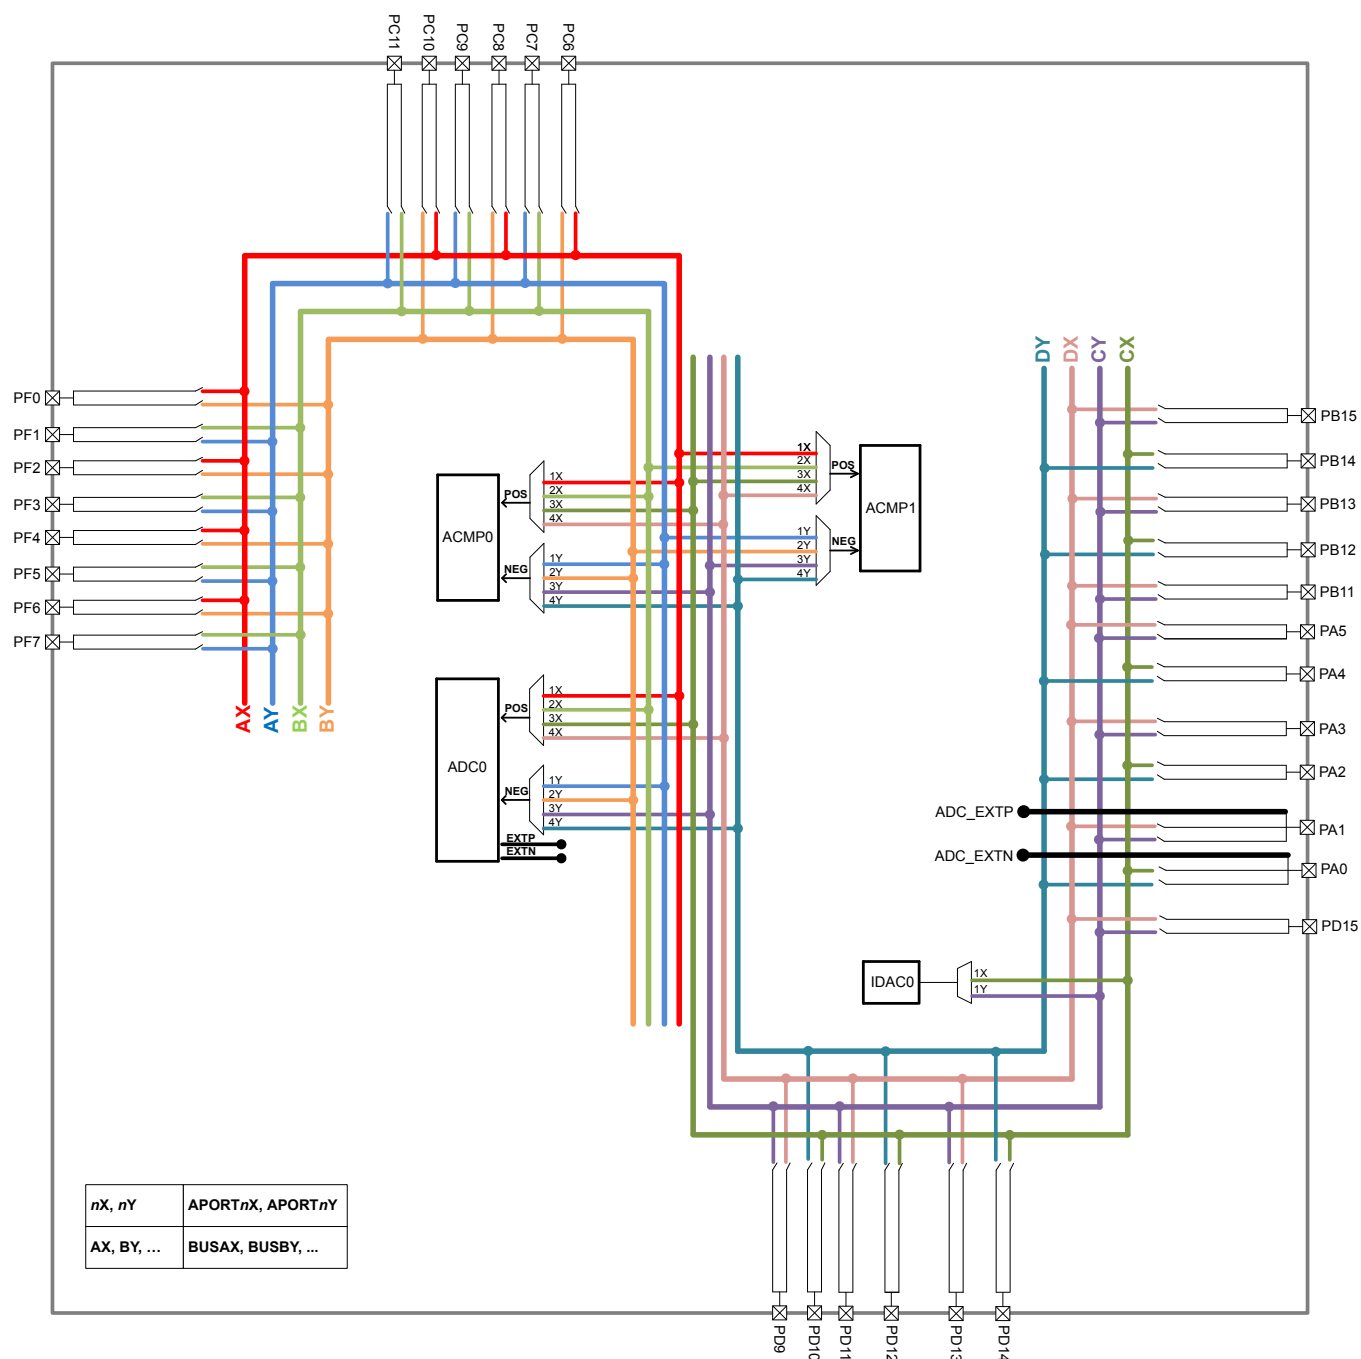

Figure 29.3. Detailed APORT Structure
Figure 29.3 Detailed APORT Structure on page 952 shows all the possible routes between different peripherals and different pins via APORT BUS for the largest package of the EFR32xG1 device family. Note that, in the figure, the BUS xX and BUS xY are annotated as xX and xY , where $x=A,B,C,D$ and the APORT nX and APORT nY are annotated as nX and nY , where $n=1,2,3,4$.
- Figure 29.3: Added Detailed APORT structure diagram.